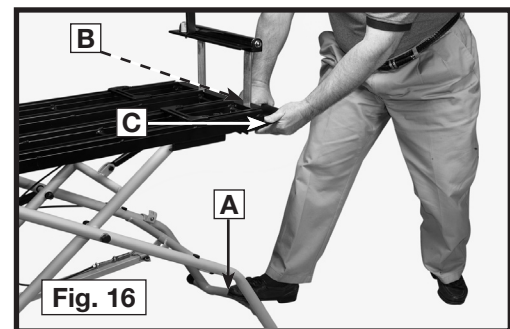

Fig. 16
1. Place your right foot on the bottom of the extension leg (A) Fig. 16.
2. Grasp the handle (B) Fig. 16 with both hands.
3. Use the thumb of your left hand to push down on the red activating lever (C).